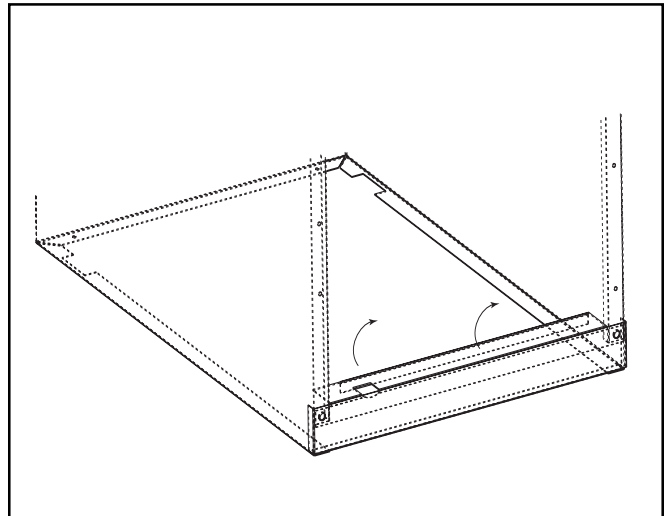

Figure 1. Lift back of cabinet tie
3. Using gloves, firmly grasp the back of the cabinet tie and lift upwards to free the side tracks (See Figure 1).